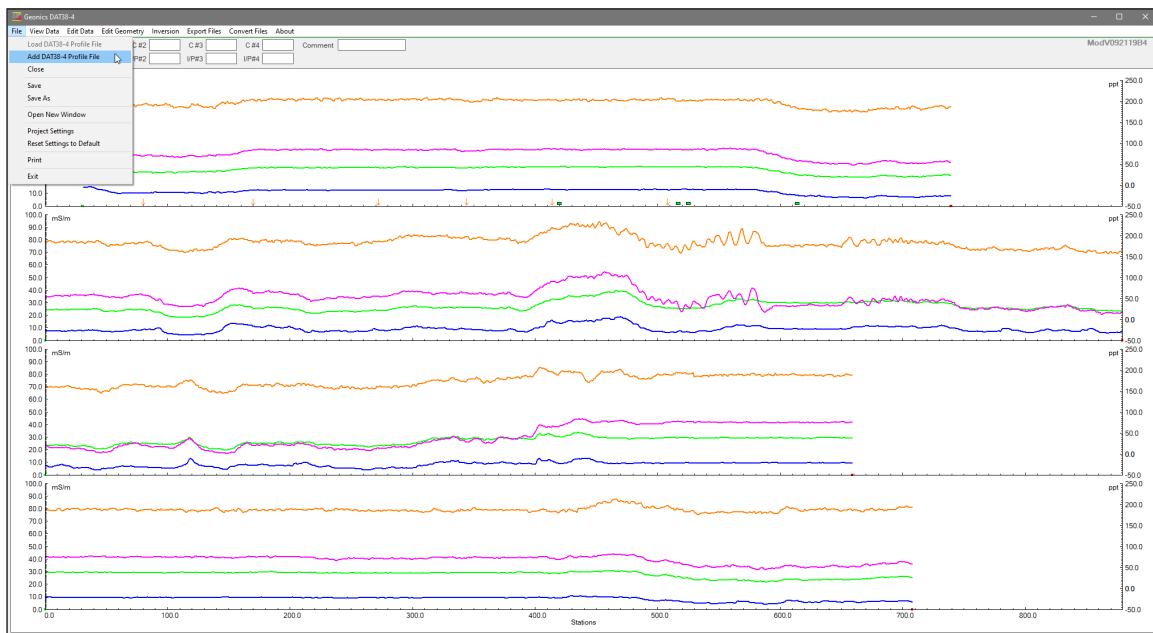

Figure 3.4 Add DAT38-4 Profile File menu
- Select **File | Add DAT38-4 Profile File** (Figure 3.4).